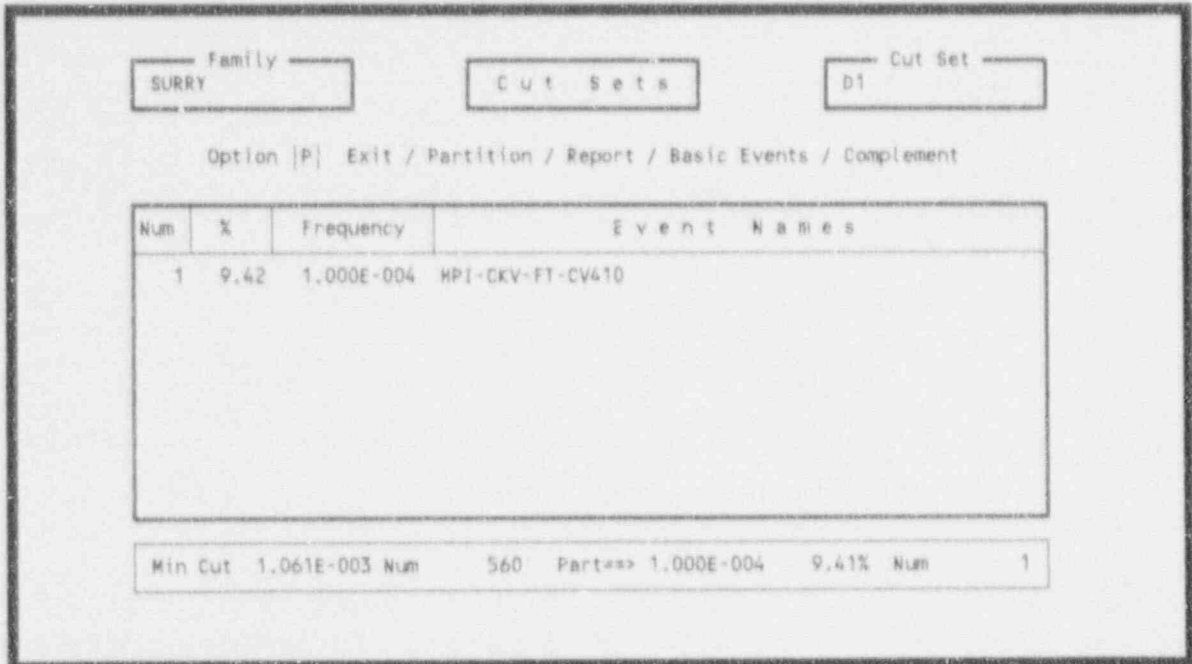
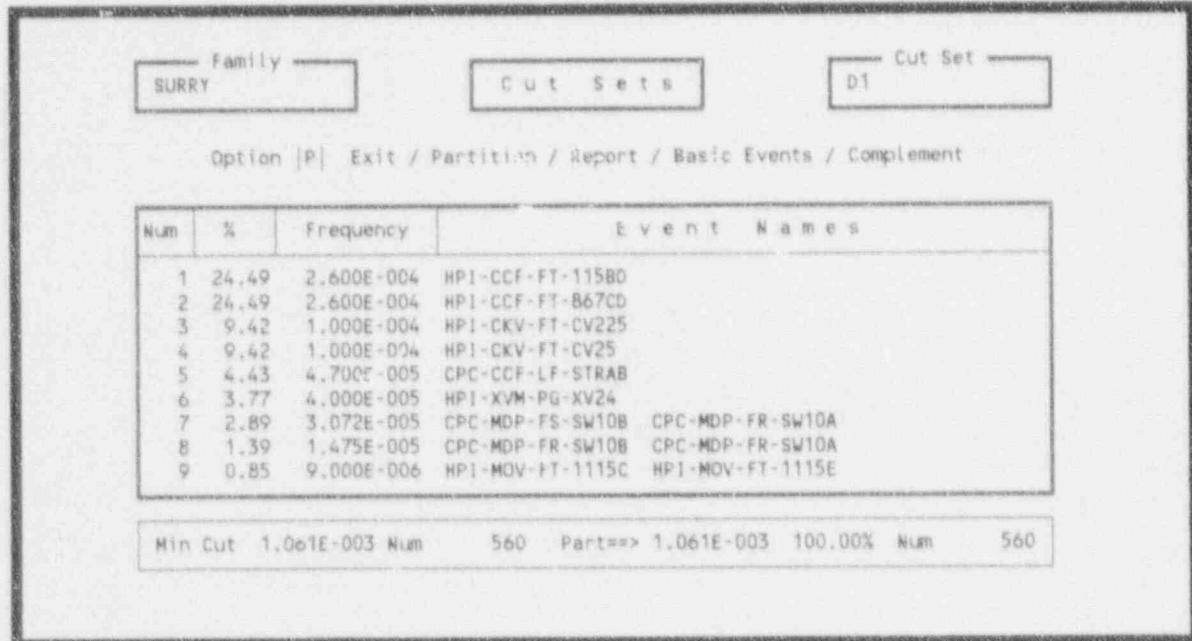

Figure 77. Using Include to partition a system.
Figure 78. Using EXclude to partition a system.
Include: To establish a partition via this option, type  in the option field, then fill in the entry fields that are to be used to qualify the events that may be used in the new partition and press <Enter>. The application proceeds to qualify the events and when complete will update the Number of Qualified Events field that appears at the top of the screen. In this case, qualified events are those events that contain the included attributes. Returning to the Cut Sets screen via the Exit option, you will see that the system cut set list contains only those cut sets that are made up of qualified events. Figure 77 was the result of specifying the event name "HPI-CKV-FT-CV410" for the "Include" option. If the system cut sets do not contain any of the qualified events, then the message **No cutsets qualify** is displayed at the bottom of the screen.
EXclude: To establish a partition via this option, type <X> in the option field, then fill in the entry fields on the screen that are to be used to remove events from the list of qualified events. The application proceeds to remove the events. When complete, the Number of Qualified Events field that appears at the top of the screen will be updated accordingly. Returning to the Cut Sets screen via the Exit option you will see that the system cut set list contains only those cut sets that are made up of qualified events. Figure 78 was the result of specifying the event name "HPI-CKV-FT-CV410" for the "EXclude" option. If the system cut sets do not contain any of the qualified events, then the message **No cutsets qualify** is displayed at the bottom of the screen.
Reset: This option sets all events in the data base to qualified. This, of course, removes all partitioning from the current system cut sets. To activate this option, type <R> in the option field and press <Enter>. (Assume the partition shown in Figure 77). The original cut set list is the result, as shown in Figure 75.
6.3.2.5 Complement. The Complement option operates on the current system partition. Its function is to set all currently qualified cut sets to unqualified. This allows you to split a system into two partitions and then switch between the two partitions to view the results. To invoke this option, type <C> in the option field, and press <Enter>. (Assume the partition shown in Figure 77). The resulting display is shown in Figure 78.